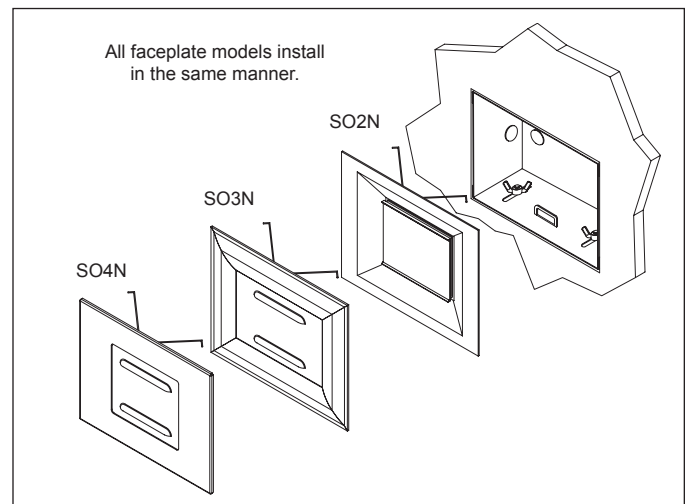

Figure 4
12. Install the faceplate by squeezing the wire springs together and inserting them into the upper and lower retainer hoops as shown in Figure 4.